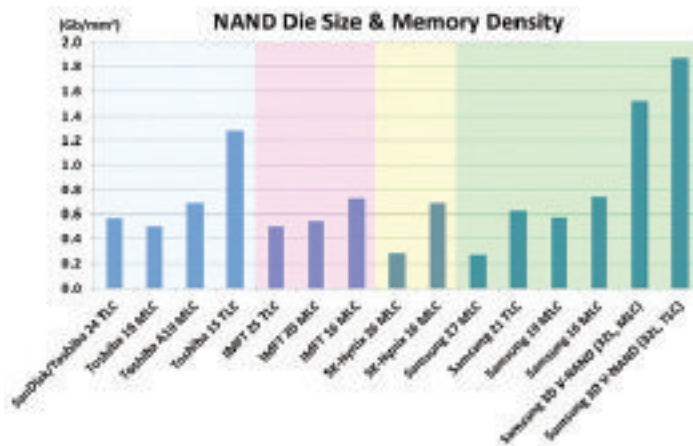

FIGURE 2. Comparison of NAND memory density for each product (Source: TechInsights).
The scaling limits for 10nm-class and sub-10nm 2D planar NAND structures include patterning technology including QPT (Quadruple Patterning Technology), cell-to-cell interference such as cross-talk, poly-Si gap-filling process for control gate (CG), self-aligned STI (SA-STI) for isolation patterning, self-aligned process (SAP) for CG/FG, interconnection methodology including pad layout/design, inter-poly dielectric (IPD) layer engineering, and cell transistor channel/source-drain (S/D) engineering. According to TechInsights' detailed structural analysis and comparison of 15nm and 16nm NAND flash devices (so called 1Y NAND technology node) such as Samsung 16nm, Toshiba 15nm, Micron 16nm and SK-Hynix 16nm products, we may expect that at least two more next generation 2D planar NAND products having 12nm; Less than 12nm technology would be developed and released from major players in the near future. As for NAND memory density and die size, Toshiba/SanDisk 15nm TLC products have 1.28 Gb/mm² which is double from other MLC products although Samsung 32-tier 3D V-NAND TLC products have 1.87 Gb/mm² (**FIGURE 2**).